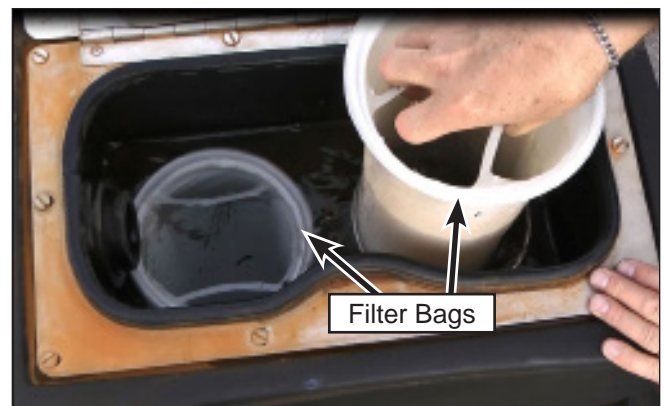

Figure 38: Filter Bag Removal.
4. Lift the filter bags (Figure 38) from the tank and inspect for debris. Replace as necessary.